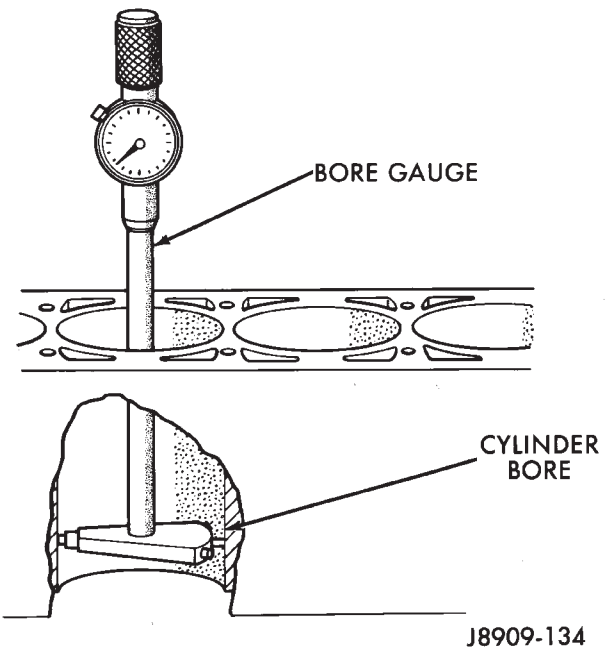

Fig. 9 Cylinder Bore Measurement
(1) Use a bore gauge to measure each cylinder bore diameter (Fig. 9). If a bore gauge is not available, use an inside micrometer.